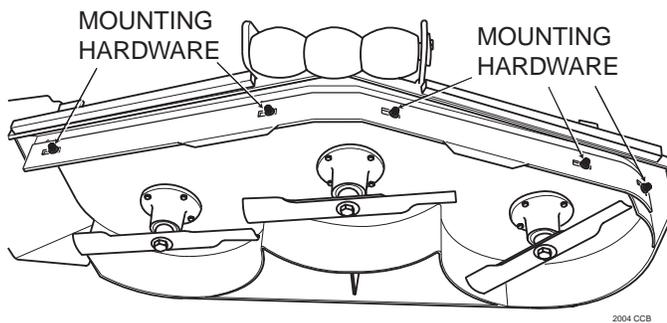

Figure 6-8. Custom-Cut Baffle
2. Remove the hardware securing the Custom-Cut Baffle to the cutter deck. (See Figure 6-8).